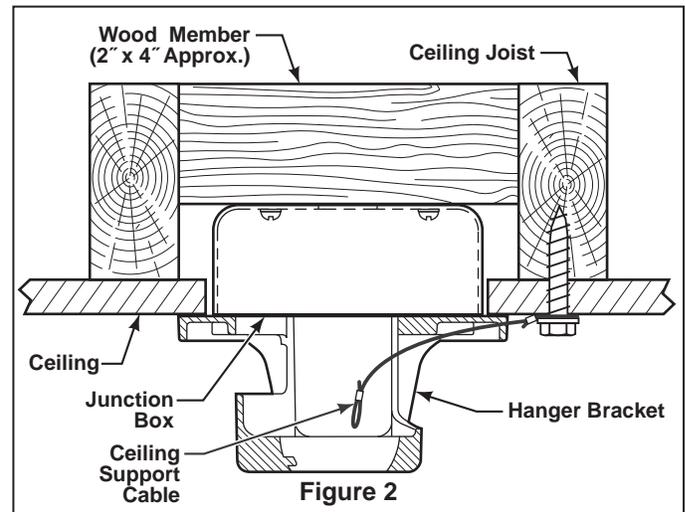

Figure 2
6. While pulling up on the hanger ball, securely tighten the two 3/16-24 x 3/8" setscrews in the downrod support. Slide the Motor Coupling Cover down. (Figures 2 & 3)
1. Using the  $\frac{3}{8}$ " x 2" lag bolt and flat washer, attach safety cable to ceiling joist or wood structural member. The lag bolt will pass through the flat washer, safety cable loop, and into the building structure (Figure 2). You will first drill a  $\frac{1}{4}$ " pilot hole into the building structure to prevent splitting or cracking.
**NOTE:** Ceiling support cable cannot be secured to junction box only, it must be directly secured to ceiling joist or structural member using the  $\frac{3}{8}$ " x 2" lag bolt and flat washer. (Figure 2)
4. Tighten nylon lock-nuts with a wrench provided, don't over-tighten. (Figure 2)